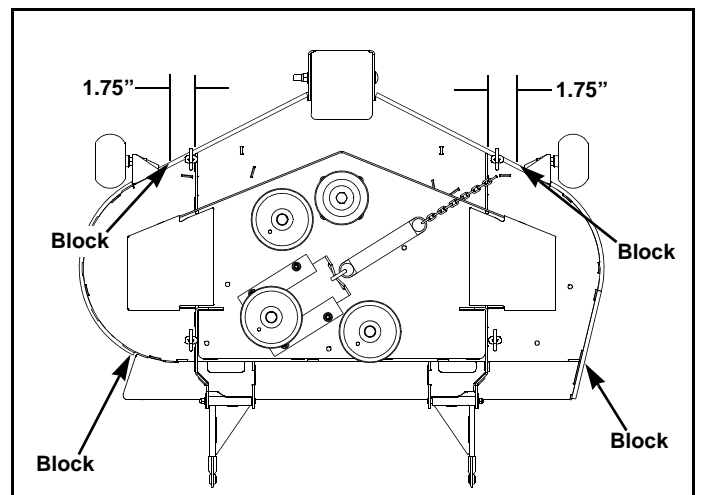

Figure 6-5
3. Place 3" high deck support blocks (two stacked 2" x 4" blocks can be used to create a 3" [7.62cm] high support) at the four corners of the deck as shown. **NOTE:** Back of deck will automatically be set 1/4" (6.35mm) higher. Figure 6-5